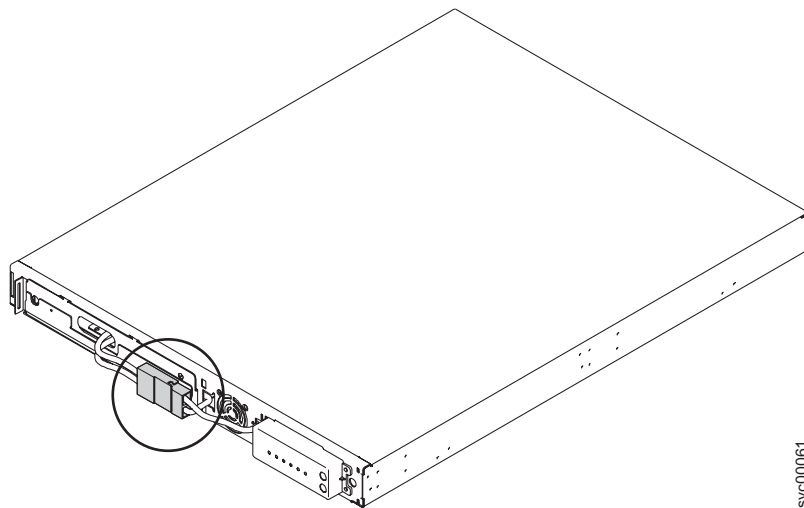

Figure 209. The 2145 UPS-1U with internal battery connectors in place
7. Connect the internal battery connector (circled in Figure 209).